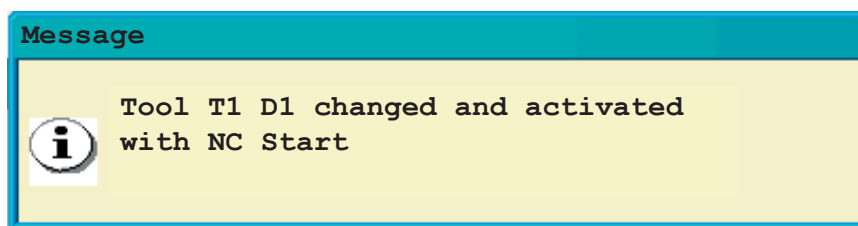

Figure 4-2. Tool change confirmation window
- Define the desired manual movement mode (see item 4.2)
- Press **"INPUT"** key (a message asking for tool change confirmation, according to figure 4-2 will be displayed)